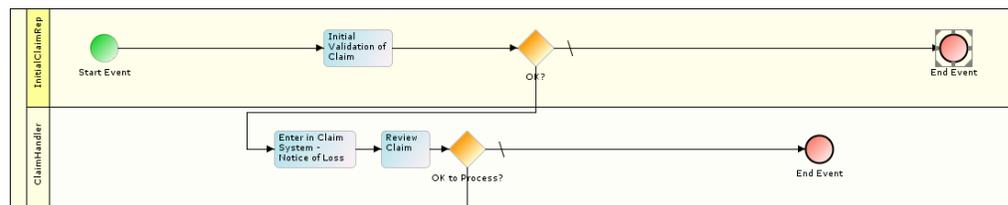

Figure 7.22: Repositioning Activity Elements and Resizing Swim Lanes
1. Click the **Activity** element that you want to reposition, in the swim lane. Use the desired arrow key to move the activity element in the preferred direction. If you move it upwards or towards the left, then it will not affect the size of the swim lane. However, if you move it towards the right or downwards, then it will automatically resize the swim lane (see Figure 7.22).